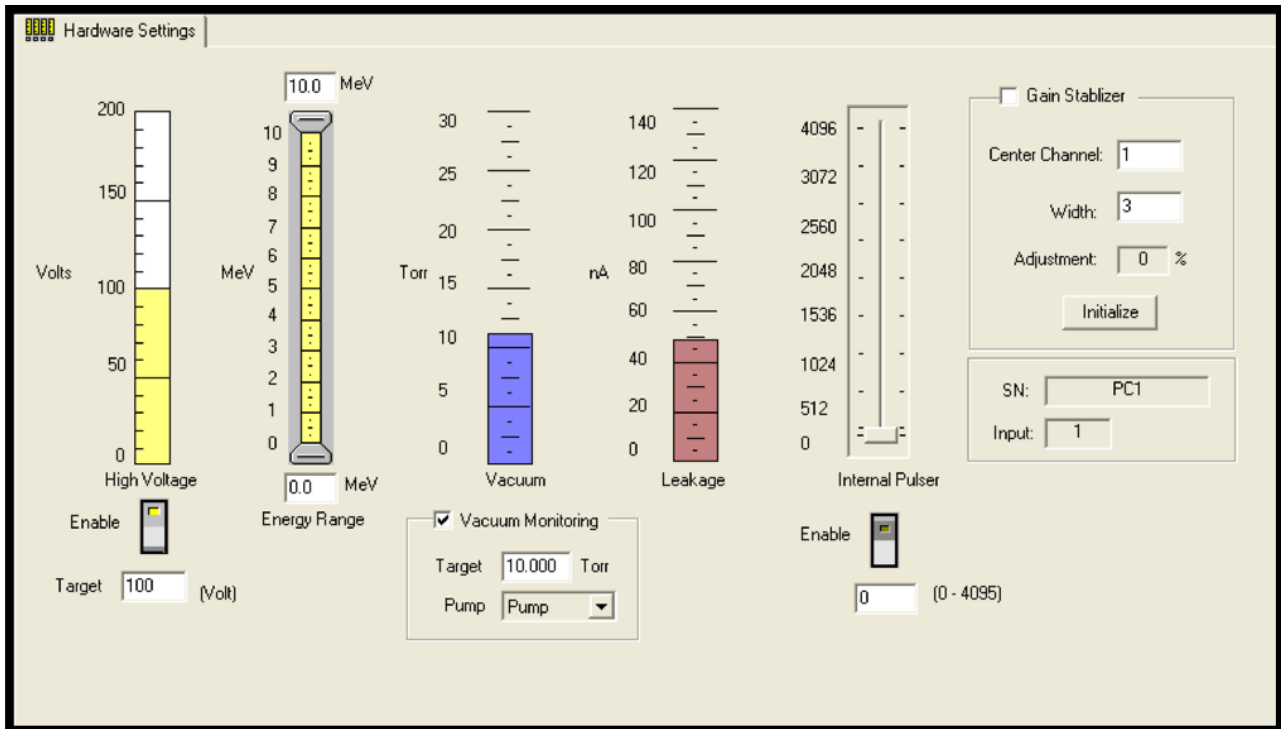

Figure 10. Alpha Duo or Mega Chamber Hardware Readouts in AlphaVision
- **AlphaVision** – On the Detector Grid, click on the desired alpha chamber, then click on the Hardware icon on the outlook sidebar. Select the vent, pump, and hold settings as needed from the **Pump** drop list. (See Figure 10)
AlphaVision uses a Hardware panel (Figure 10) to display most of the controls from the Alpha, Stabilizer, and HV tabs. (Note that when the AlphaVision **Chamber Properties** for a Duo or Mega chamber, the Properties dialog does not display the Alpha tab.)